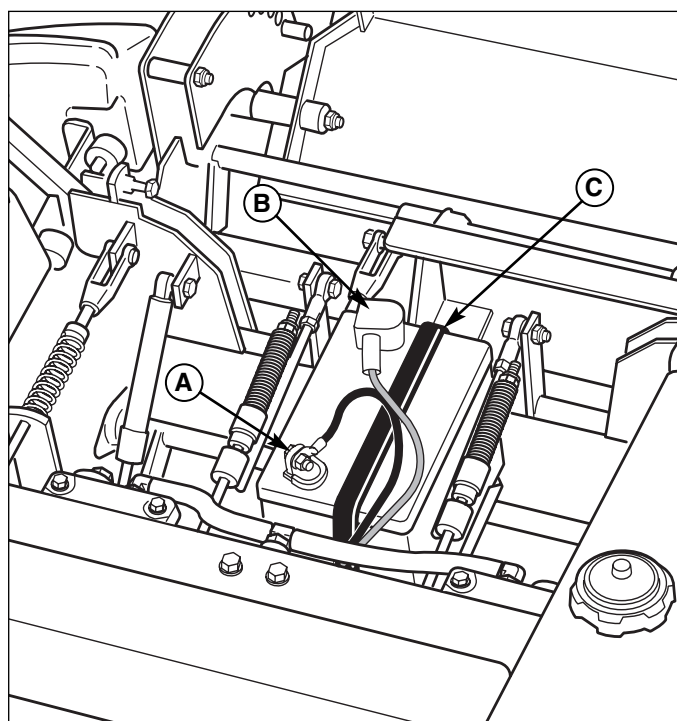

Figure 2. Battery
1. Install the battery in the battery compartment and secure using the rubber hold-down strap (C, Figure 2).
2. Connect the red positive battery cable (B) to the positive battery post.
3. Connect the black negative battery cable (A) to the negative battery post using a capscrew, washer, lock-washer and nut.
Check that the seat switch wire harness (D, Figure 2) is connected to the seat switch.